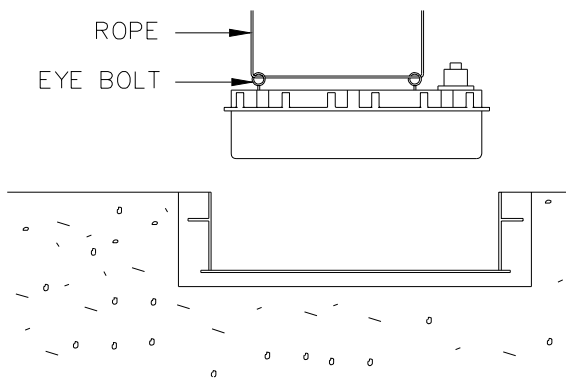

FIGURE 5
7. The two eye bolts delivered with the unit are screwed into the M8 threaded holes in the base plate. A rope is then pulled through these eye bolts and the unit is lowered into the mounting box (weight approx. 77 lbs) see fig 5. Please observe carefully that the electrical cables are not jammed and that the rubber inserts are well attached to the mounting box.